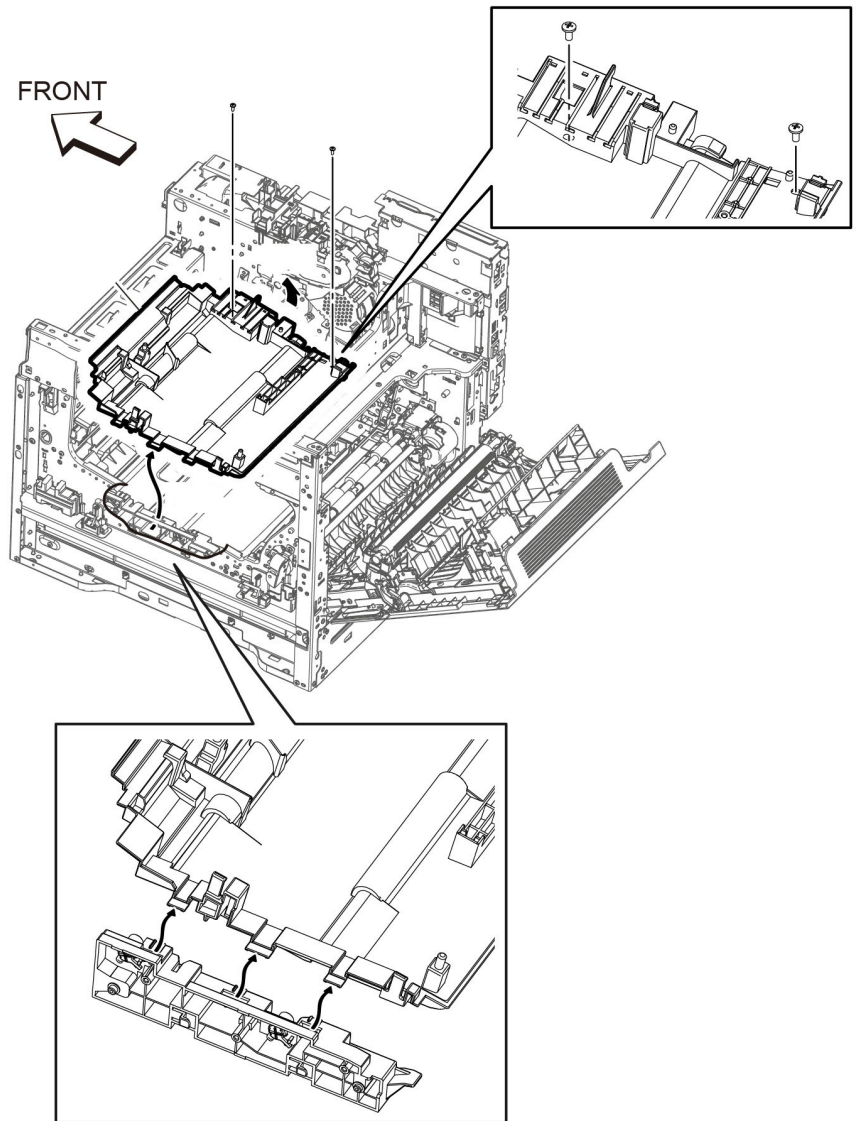

Figure 7 Remove the MSI upper chute
6. Remove the two screws (ST20) attaching the MSI upper chute and lift up the MSI upper chute, Figure 7.